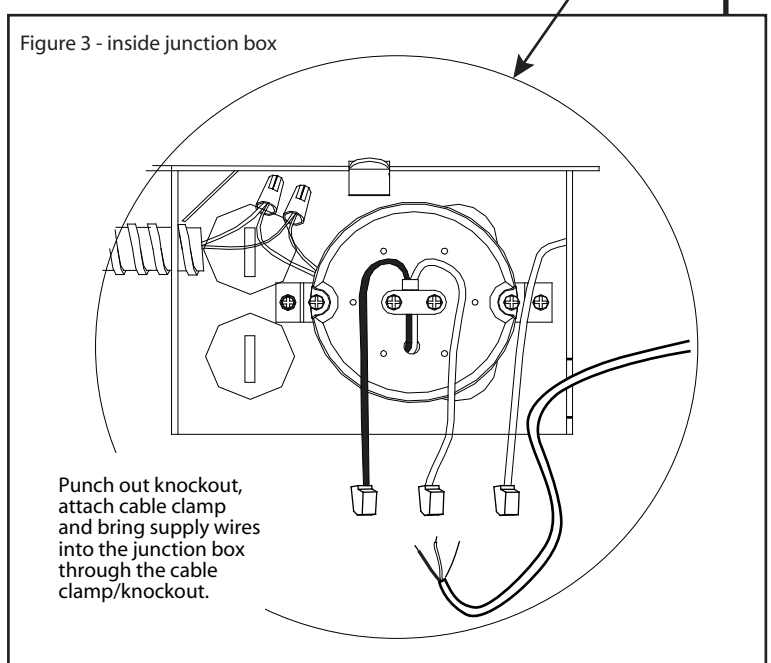

Figure 3 - inside junction box
7. Route minimum 18AWG solid copper wires through knockout via cable connector. Attach line voltage AC supply wires to driver lead wires inside of junction box: Black to Black, White to White, Green or bare wire to Yellow/Green (Ground). Secure each connection using the quick connectors provided on the driver lead wires. See Figure 3.